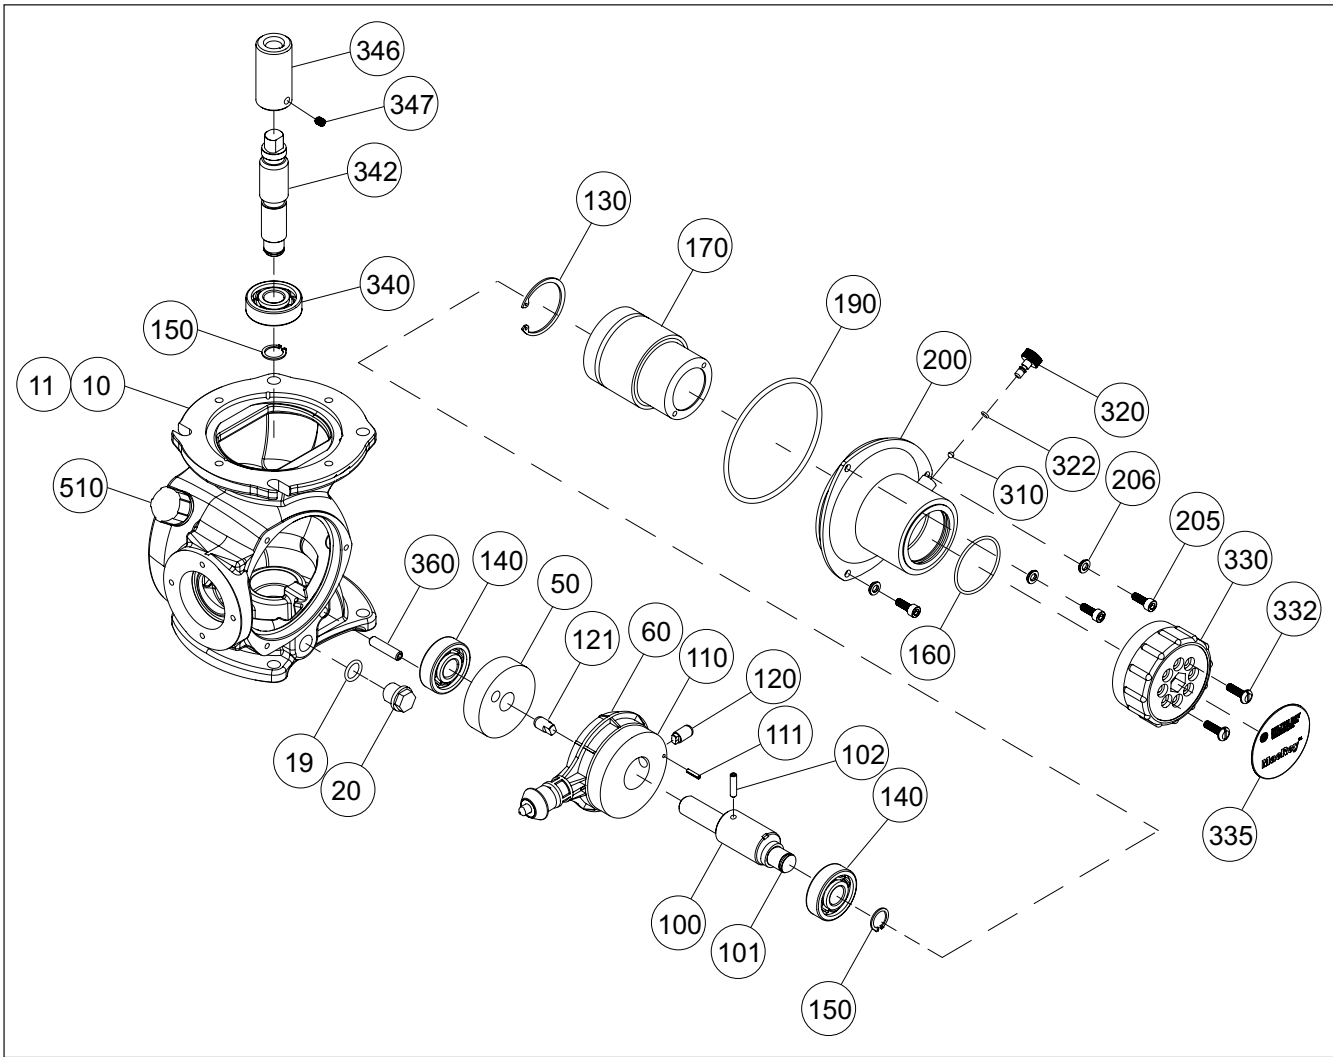

Figure 6. Drive Assembly (10227280007)
Visual Check of Seal Integrity of Mechanical Assembly, Figure 6.
1. Motor flange: If leaking, replace motor flange sealing gasket (Item 11 in *Figure 6*).
2. Stroke adjustment knob: If leaking, replace stroke adjustment seal (Item 160 in *Figure 6*).